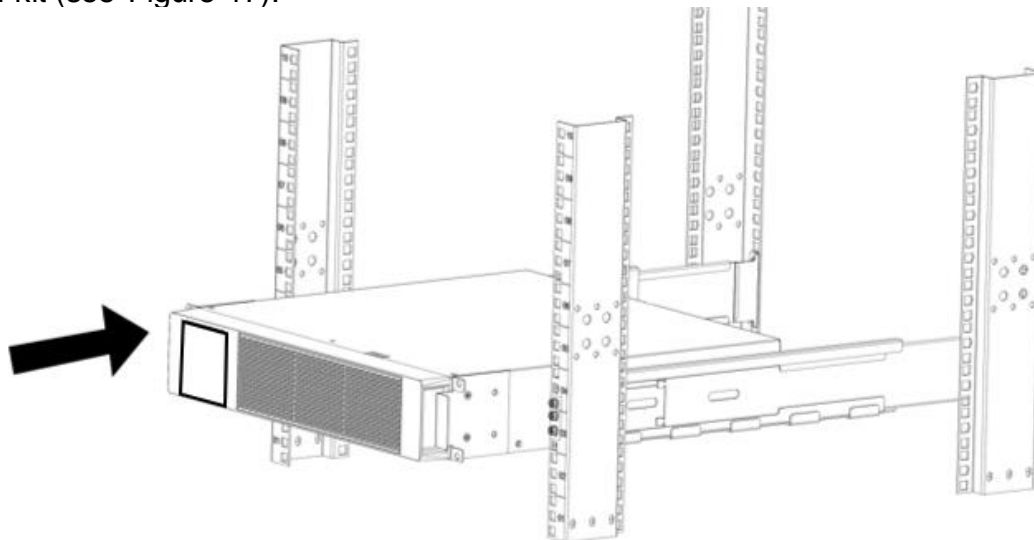

Figure 17: Slide EBP into the Rack
17. After installing the mounting brackets onto the EBP, slide the EBP into the rack on the rail kit (see Figure 17).